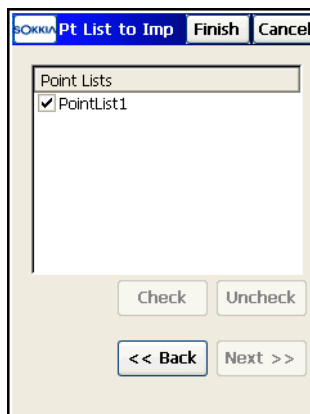

Figure 5-5. Select Point List(s) to Import
8. On the **Pt List to Imp** screen (Figure 5-5) select the point lists to import.
9. Tap **Next** if other data is chosen to import into the *From <Job>* screen. The next screen opens to select other objects (horizontal alignments, vertical alignments, roads or x-section sets) which are similar to the *Pt List to Im* screen (Figure 5-5 on page 5-4).